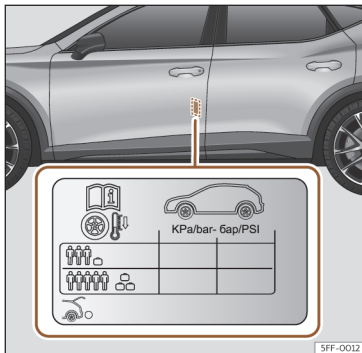

Fig. 219 Location of the tyre pressure sticker.
- Adjust tyre pressure to the load being carried by the vehicle»» **Fig. 219**.
The tyre inflation pressures are listed on a sticker on the rear of the front left door frame»» **Fig. 219**.
The tyre pressure must be adjusted according to the load the vehicle is carrying. If the vehicle is going to carry the maximum load, the tyre pressure should be increased to the maximum value indicated on the sticker »» **Fig. 219**.
In the case of a minimised temporary spare wheel (125/70 R18) inflate to a pressure of 4.2 bar as indicated on the tyre pressure label»» **Fig. 219**.
»» Fig. 219.
- »» Fig. 219.